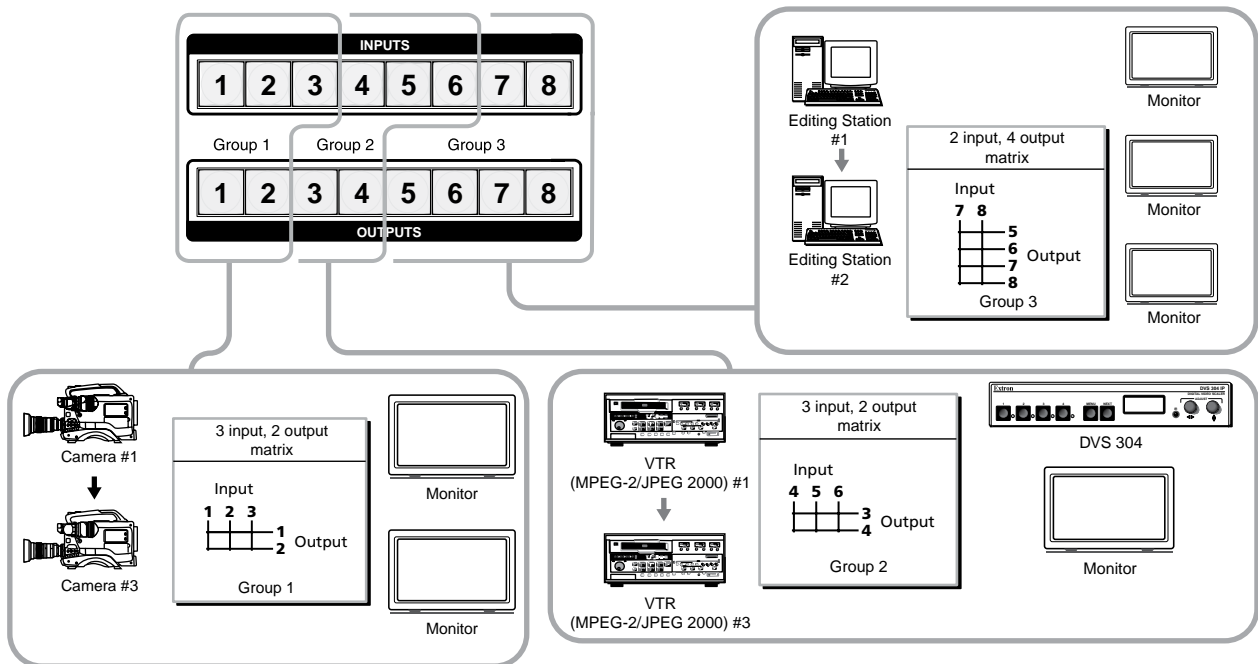

Figure 45. I/O Grouping of Incompatible Video Formats
Figure 45 gives an example of input and output grouping of DVI Pro and HDMI devices on a DXP.
- Segregating specific video formats to prevent an input in one video format from being inadvertently applied to an output device that supports another video format (see figure 45).